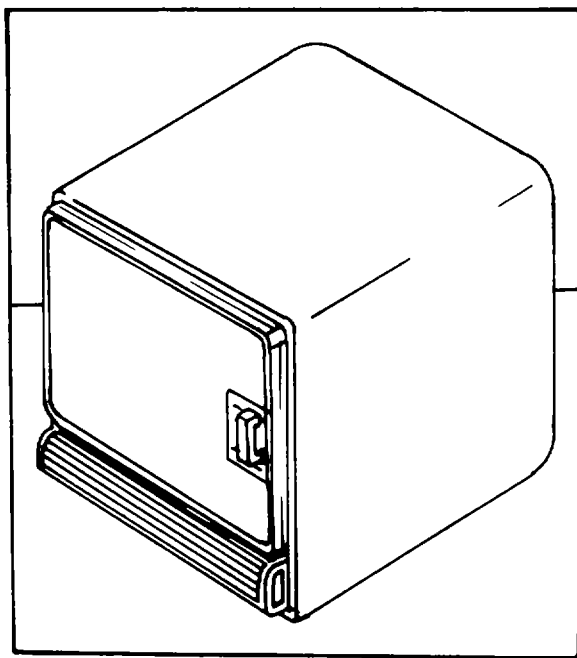

Figure 1-16. Refrigerator
h. *Refrigerator (Figure 1-16)*. The refrigerator is mounted on the curbside of the laboratory. It operates on 11 OV, 60Hz, single-phase power. It provides 6.5 cubic feet (0.182 cubic meters) of refrigerated storage.